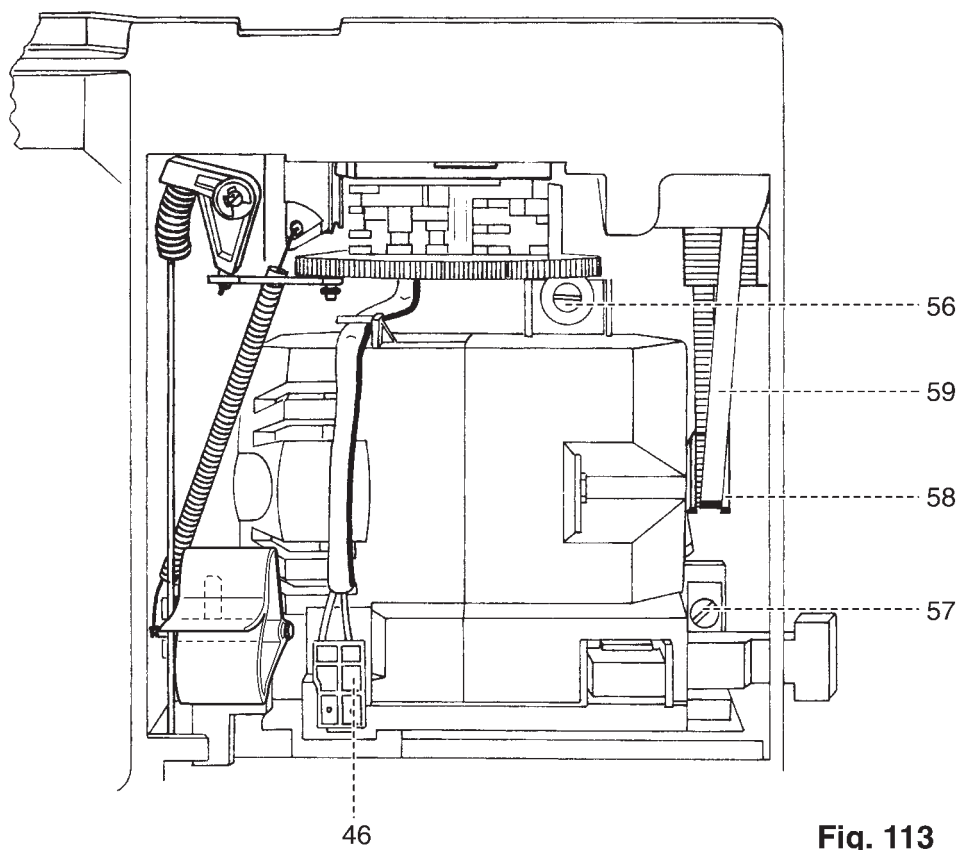

Fig. 113
- Remove the right-hand motor retaining screw 57 (fig. 113).
- Insert the motor and place motor sprocket 58 in toothed belt 59 (fig. 113).